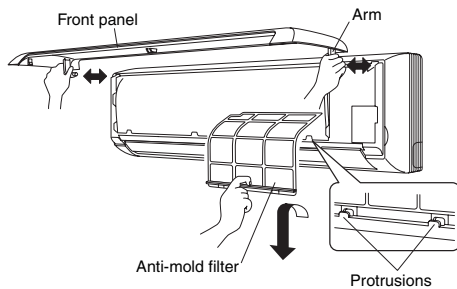

Fig. 9
- (1) Open the front panel until it is nearly horizontal, grasp the sections near the front panel arms on both sides, and then remove the panel by pushing the arms towards the outside while pulling the panel towards you. (Fig. 9)
- (2) Lift the anti-mold filter up slightly to disengage the protrusions from the hooks on the unit, and then pull downward to remove the filter from the unit. (Fig. 9)